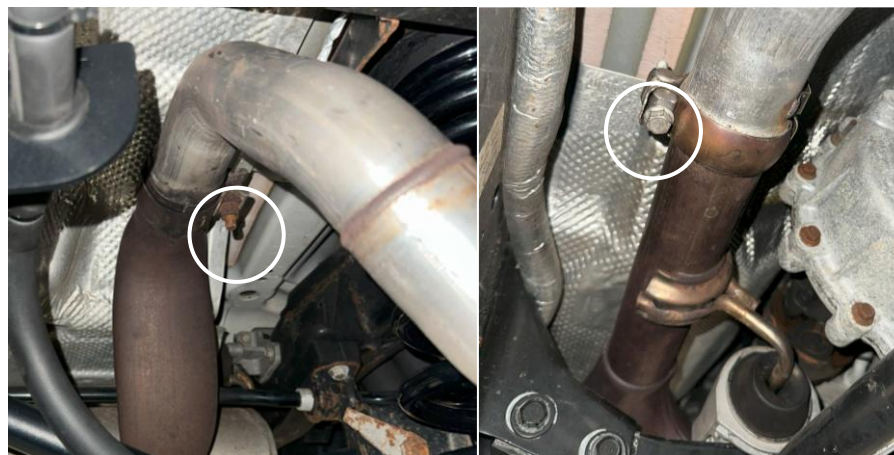

Figure 14: Rear exhaust section clamps to be removed (3.6 V6 JT)
- ☐ Remove the rear exhaust section at the clamps near the muffler and the cross member (Figure 14) and fully remove the section ***3.6 V6 JL ONLY***. If installing the rear upgrade kit on a 3.0L Diesel, you will not need to remove any rear exhaust sections.